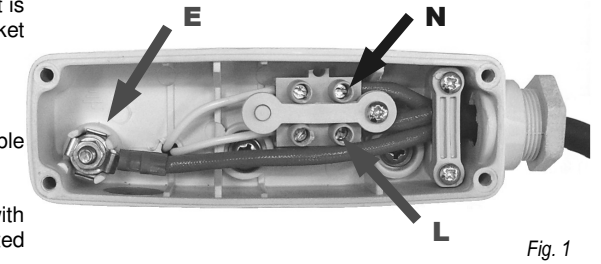

Fig. 1
- Use a minimum of 1.0mm² H05RN-F supply cable with 2 poles and earth and sleeve with silicon glass fibre braided (250 °C) Sleeving. The live and neutral wires must be connected to the terminal block. See Fig 1.